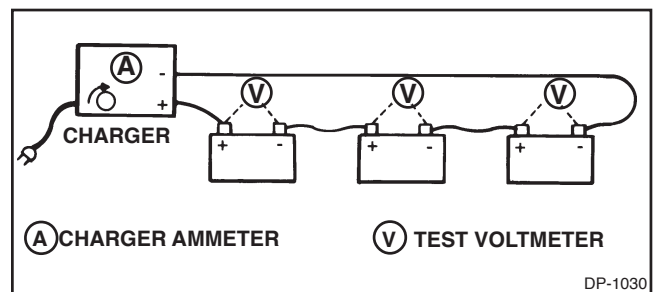

Figure 1.
With the Series Chargers, the batteries are connected so that each battery receives the same amount of charging current. (See Fig. 1 for typical hook-up.)
2. Connect batteries to charger as shown in Figure 1. Do not exceed the charger's voltage capabilities by connecting too many batteries. Make sure all connections are clean and tight. Set charging rate within 5-10 ampere range and maintain this charging rate throughout the charging procedure.
- B. Freedom Batteries: Check for green dot indication. Shake or tilt batteries at hourly intervals to see if green dot will stay visible. Also check terminal voltage of each battery with test voltmeter connected, as shown in Figure 1. While on charge, if voltage across battery is 16.0 volts or more, or if green dot appears, remove battery from charger. Any battery that becomes hot (125°F, 52°C), as determined by touching and feeling the case, or any battery that violently gasses, should be removed from the charger for testing. Readjust control to maintain same charging rate on remaining batteries as charged batteries are removed.